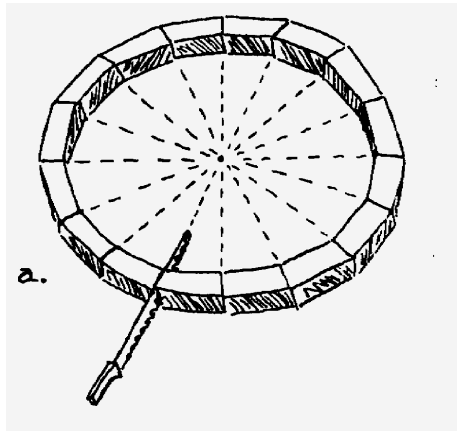

Figure 11-11
- Cut the sides of each block so they point to the center as shown in figure 11-11).